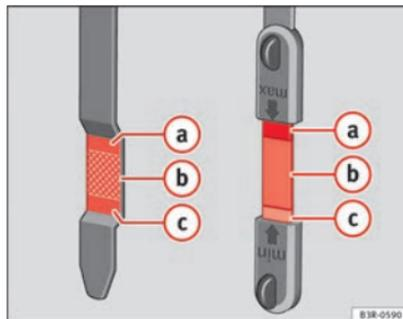

Fig. 170 Markings on oil dipstick
- Then pull it out once more and check the oil level ⇒ Fig. 170. If the oil level is too low, add more engine oil ⇒ page 232.